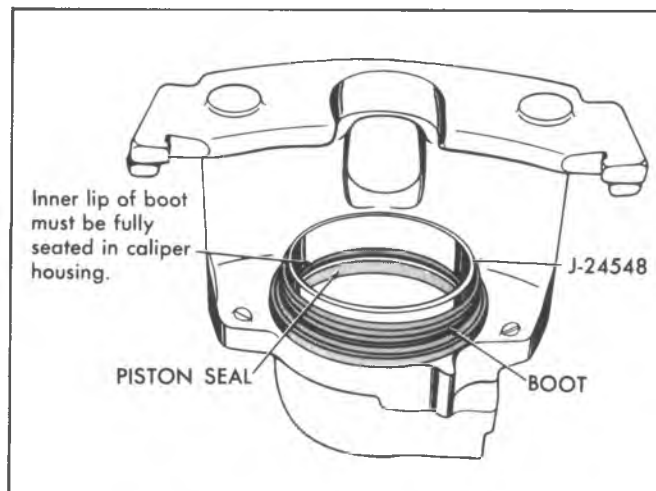

Fig. 5-41—Installing Caliper Piston Boot
2. Lubricate both sealing lips of the dust boot and the piston with a light film of clean brake fluid. Place the new boot over Piston Installer Tool J-24548. This is most easily accomplished by placing the boot large diameter over the tool first, then riding the smaller diameter onto the tool. The large diameter lip must then be slid off the tool to make ready for installation into the bore groove. Install the boot (large bead) into the piston bore groove by reaching inside of Tool J-24548 and pressing the boot bead into the groove (fig. 5-41).